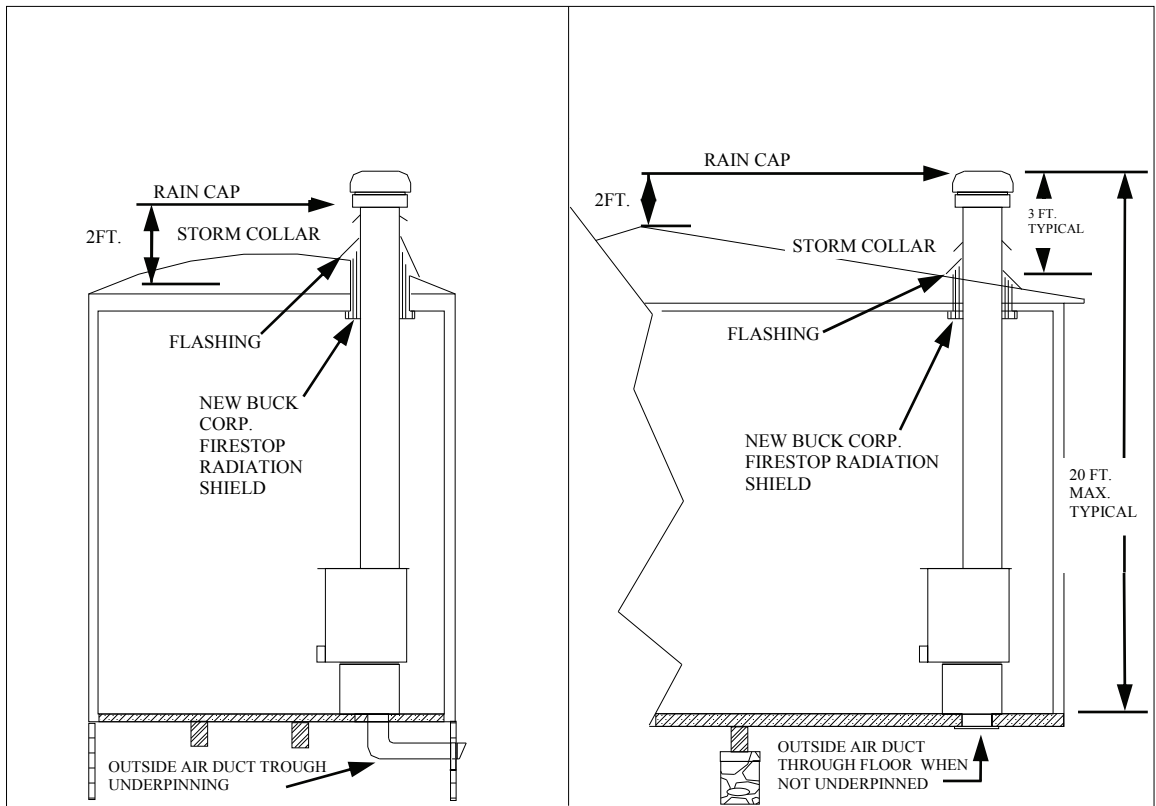

FIGURE 5
- (b) Chimney pipe height is at least 2' higher than any part of the roof within 10' of the chimney. (See Figure 5.)